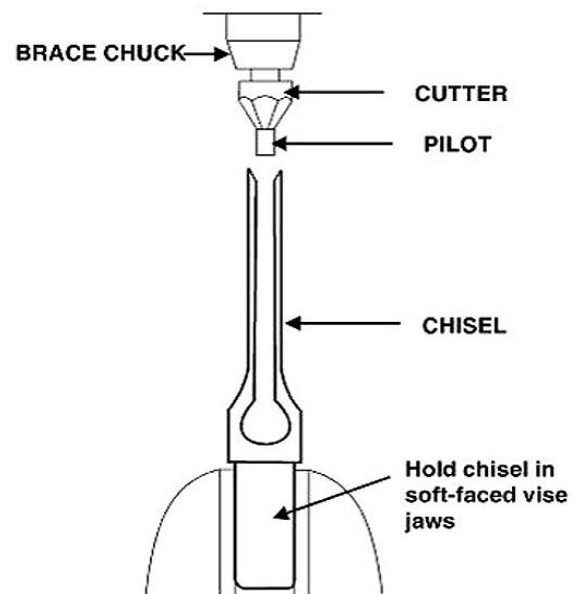

Fig 15
2. Sharpen the chisel with a mortise chisel cutter with the correct size pilot. (Pilot size will differ depending on the size of your chisel). Two or three turns of the cutter in a carpenter's brace chuck should be enough to sharpen the chisel, as shown in Fig. 15.